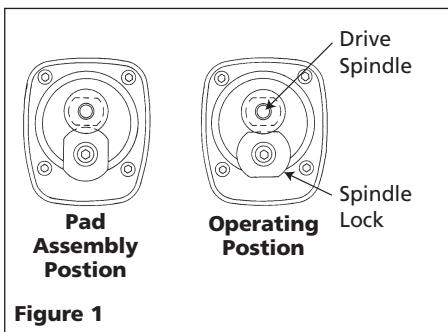

Figure 1
1. Lock the drive spindle in place before attaching the sanding pad. Rotate the spindle lock until the spindle lock engages with the drive spindle and hand tighten the sanding pad in a clockwise direction (See Figure 1).